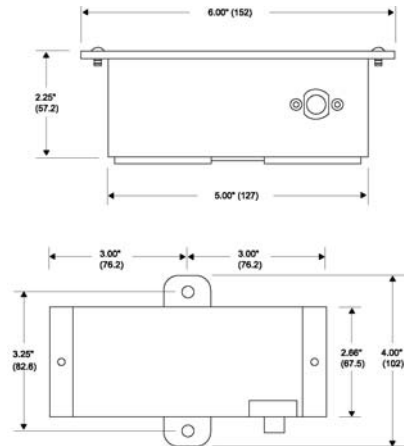

Figure 1. Pressure Transducer Dimensions
2. Orient the pressure transducer so that the 1/8-inch NPT connection points downward. See Figure 1.